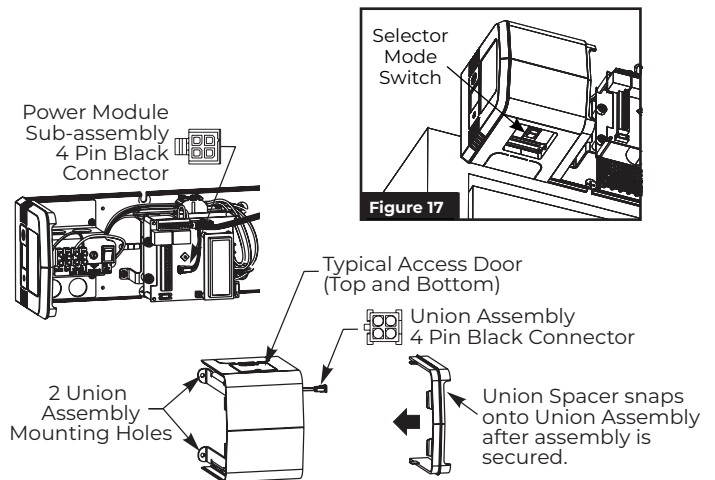

Figure 18
2. Snap union spacer onto union assembly opposite end cap and secure with two (2) #6-32 x 1/4" Phillips pan head screws. (Figure 18)
3. Secure union assembly to backplate using two (2) #8-32 x 5/16" Phillips pan head screws. (Figure 18)
4. Connect 4-pin black square connector from power module sub-assembly to 4-pin black connector from union assembly. (Figure 18)